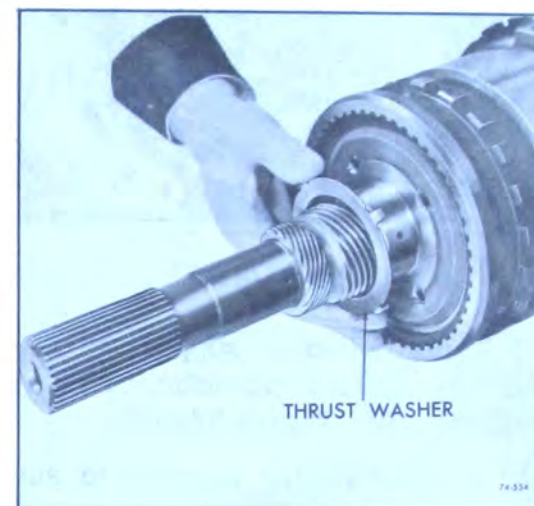

Figure 74-554
16. Remove output shaft to case thrust washer from rear of the output shaft or inside case. See Figure 74-554.